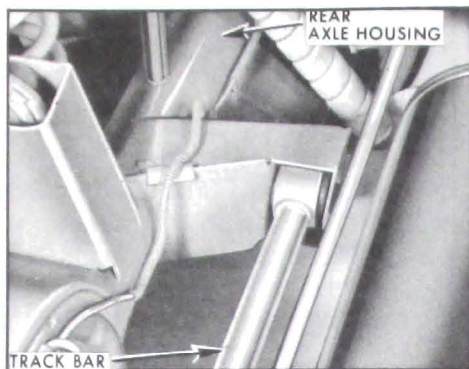

Figure 7-32—Track Bar - Axle Attachment - 49000
5. If track bar bracket is to be removed, remove three bolts, washers, and nuts attaching track bar bracket to frame side rails and remove track bar bracket. See Figures 7-32 and 33.